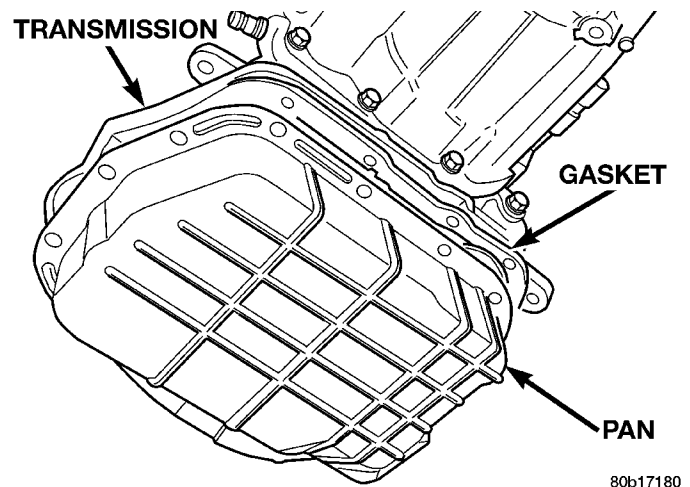
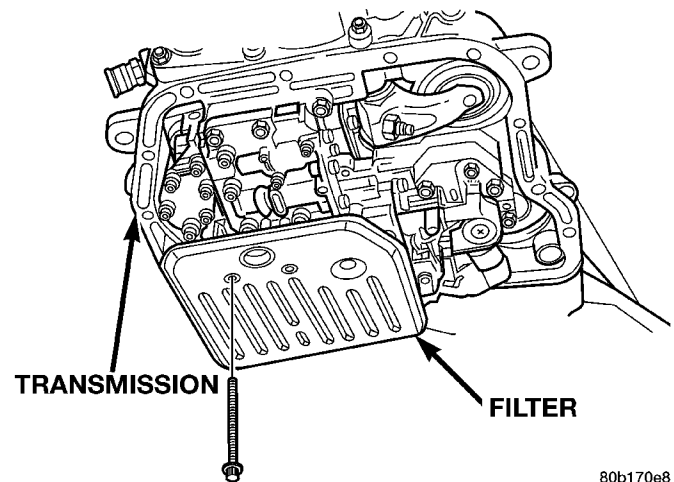

Fig. 13 Transmission Pan
Fig. 14 Transmission Filter
- (1) Hoist and support vehicle on safety stands.
- (2) Place a large diameter shallow drain pan beneath the transmission pan.
- (3) Remove bolts holding front and sides of pan to transmission (Fig. 13).
- (4) Loosen bolts holding rear of pan to transmission.
- (5) Slowly separate front of pan away from transmission allowing the fluid to drain into drain pan.
- (6) Hold up pan and remove remaining bolt holding pan to transmission.
- (7) While holding pan level, lower pan away from transmission.
- (8) Pour remaining fluid in pan into drain pan.
- (9) Remove screws holding filter to valve body (Fig. 14).
- (10) Separate filter from valve body and pour fluid in filter into drain pan.
- (11) Dispose of used trans fluid and filter properly.
(1) Place replacement filter in position on valve body.
(2) Install screws to hold filter to valve body (Fig. 14). Tighten screws to 4 N·m (35 in. lbs.) torque.
(3) Place new gasket in position on pan and install pan on transmission.
(4) Place pan in position on transmission.
(5) Install screws to hold pan to transmission (Fig. 13). Tighten bolts to 17 N·m (150 in. lbs.) torque.
(6) Lower vehicle and fill transmission with Mopar® ATF Plus 3, type 7176 fluid.